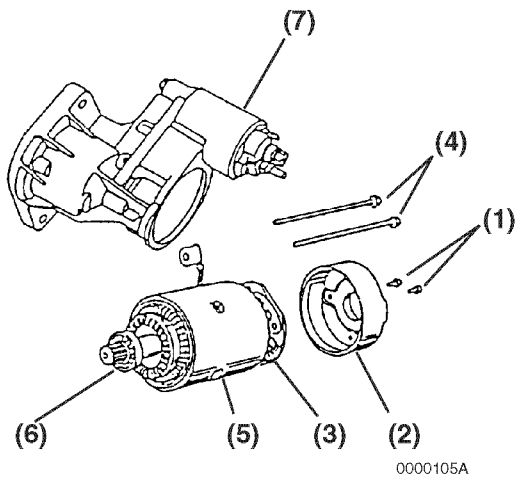

Figure 11-4
2. Remove the two M4 bolts (**Figure 11-4, (1)**) securing the rear cover (**Figure 11-4, (2)**) to the brush holder assembly (**Figure 11-4, (3)**).
3. Remove the two M5 through bolts (Figure 11-4, (4)). Separate the rear cover (Figure 11-4, (2)), field coil assembly (Figure 11-4, (5)) with the armature assembly (Figure 11-4, (6)) from the gear housing (Figure 11-4, (7)).